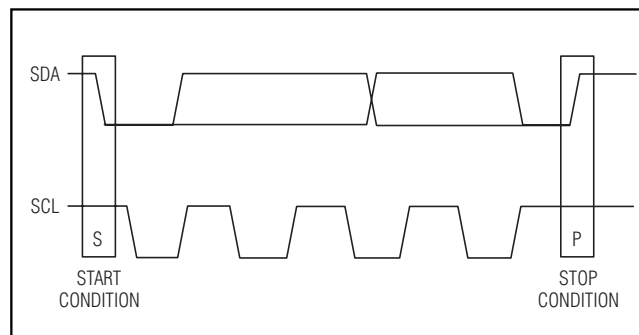

Figure 3. START and STOP Conditions
Both SCL and SDA remain high when the interface is not busy. The active master signals the beginning of a transmission with a START (S) condition by transitioning SDA from high to low while SCL is high. When the master has finished communicating with the slave, it issues a STOP (P) condition by transitioning SDA from low to high while SCL is high. The bus is then free for another transmission (Figure 3). The interval between a START and a STOP is called a session.